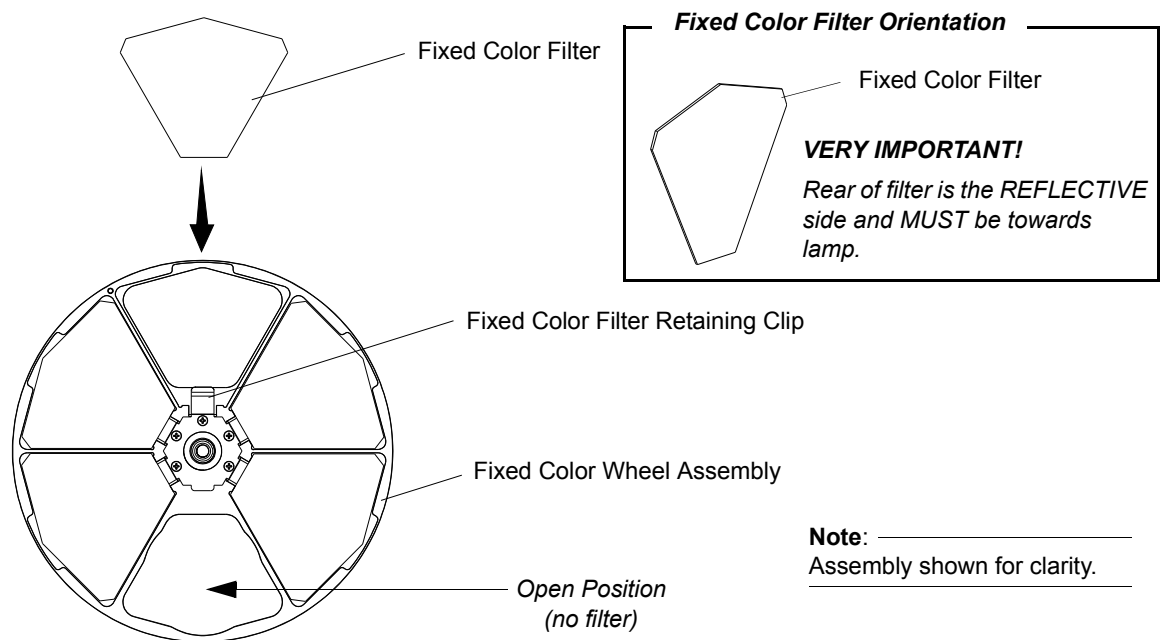

Figure A-6: Installing Fixed Color Filters
- Step 6. Install replacement filter into slot. Note orientation of fixed color filter as indicated in Figure A-6. Make sure filter is inserted and secured by fixed color wheel retaining clip as shown in Figure A-6.